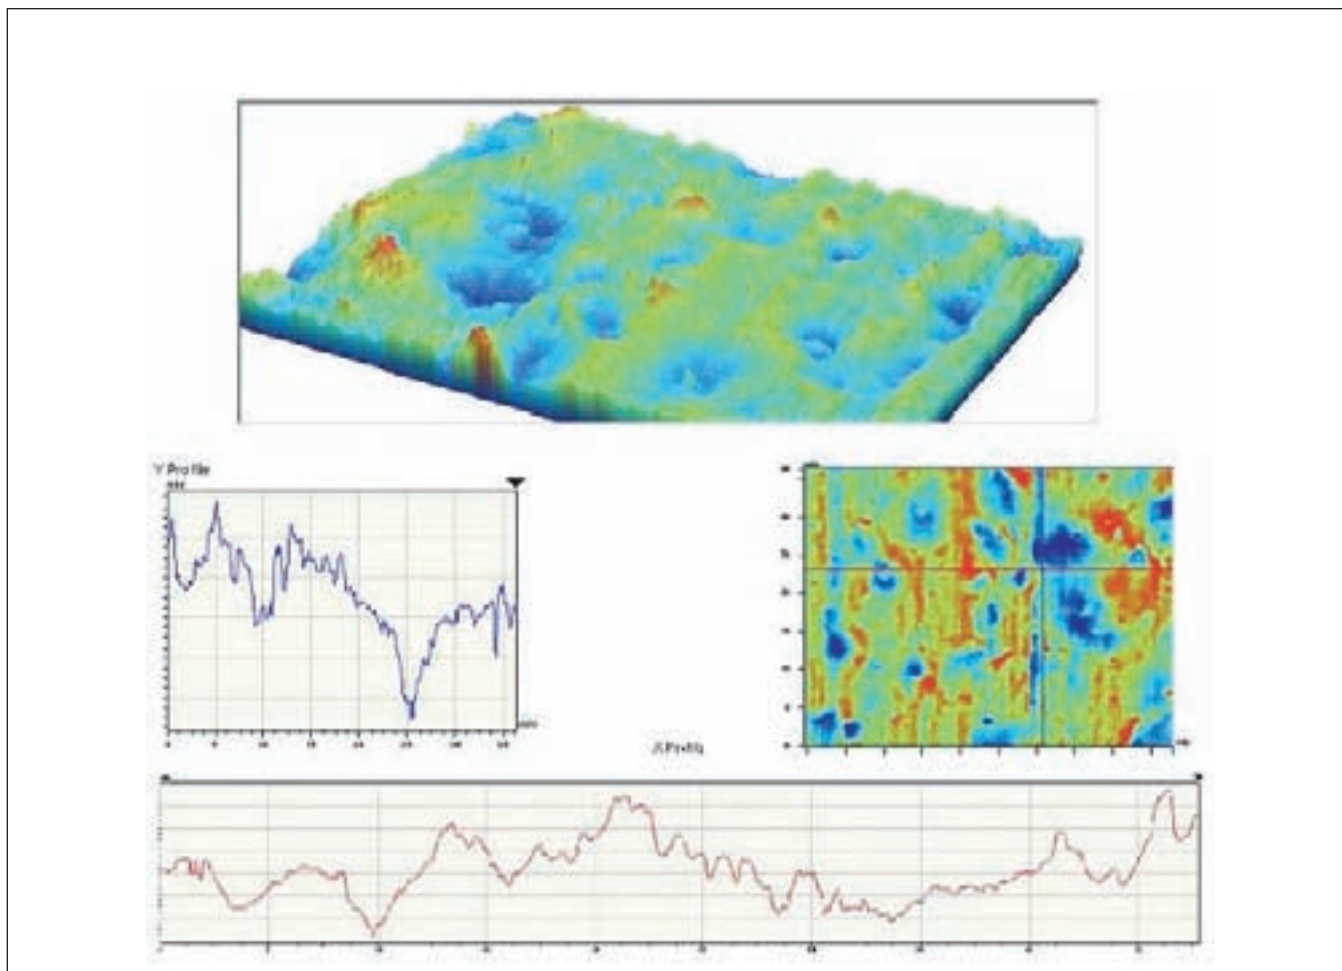

Figure 5—Typical gear tooth surface roughness.
- **Surface roughness:** The pre-test and post-test surface finishes are part of the measurements. A typical hypoid gear tooth surface roughness is as shown in Figure 5. The three-dimensional surface can be established by scanning an area. The surface roughness numbers used in the DOE are along the tooth profile direction.